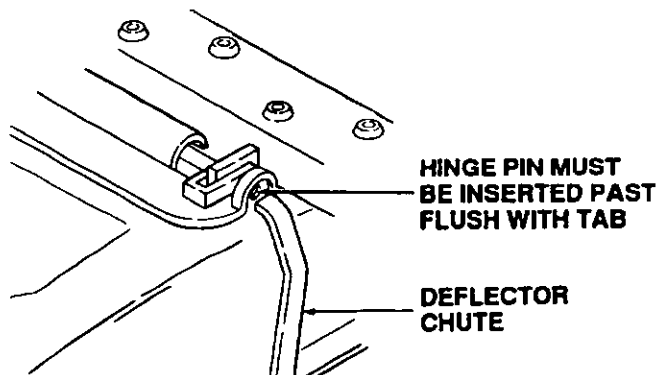

Figure 8
2. When the hinge pin is assembled correctly, the end should be slightly past flush with the chute deflector. (Refer to Figure 8.)